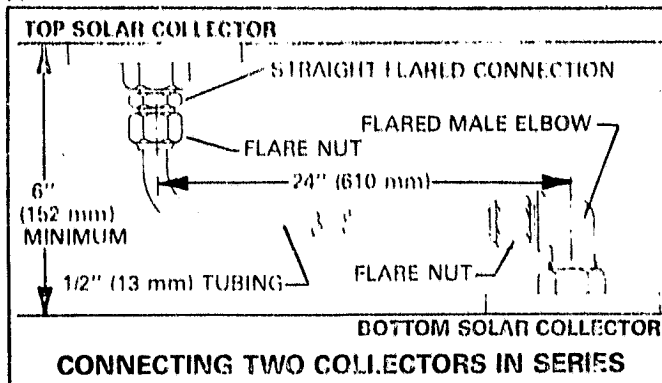

FIGURE 15
- a. Figure 15 illustrates two solar collectors piped in series. Install a flare male elbow at the bottom collector and a flare male straight connection at the top collector.